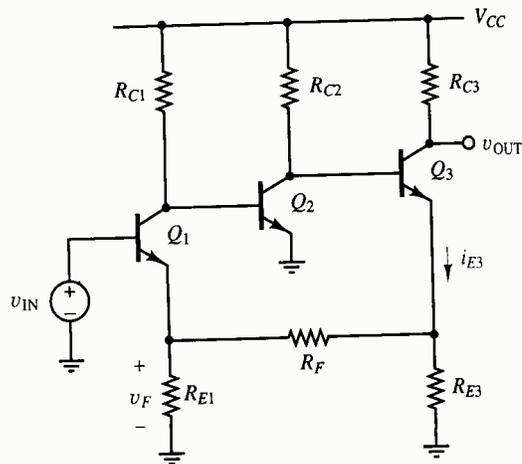

Fig. P10.56
10.56  The circuit of Fig. P10.56, called the *series/series triple*, utilizes series input mixing and series output sampling. Suppose that $R_{C1} = 9\text{ k}\Omega$, $R_{C2} = 5\text{ k}\Omega$, $R_{C3} = 600\ \Omega$, $R_{E1} = R_{E2} = 100\ \Omega$, and $R_F = 640\ \Omega$.
10.100 Simulate the series/series triple of Fig. P10.56 on SPICE with $V_{CC} = 7$ V, $R_{C1} = 9$ k Ω , $R_{C2} = 5$ k Ω , $R_{C3} = 600$ Ω , $R_{E1} = R_{E2} = 100$ Ω , and $R_F = 640$ Ω . Find the resulting closed-loop gain.